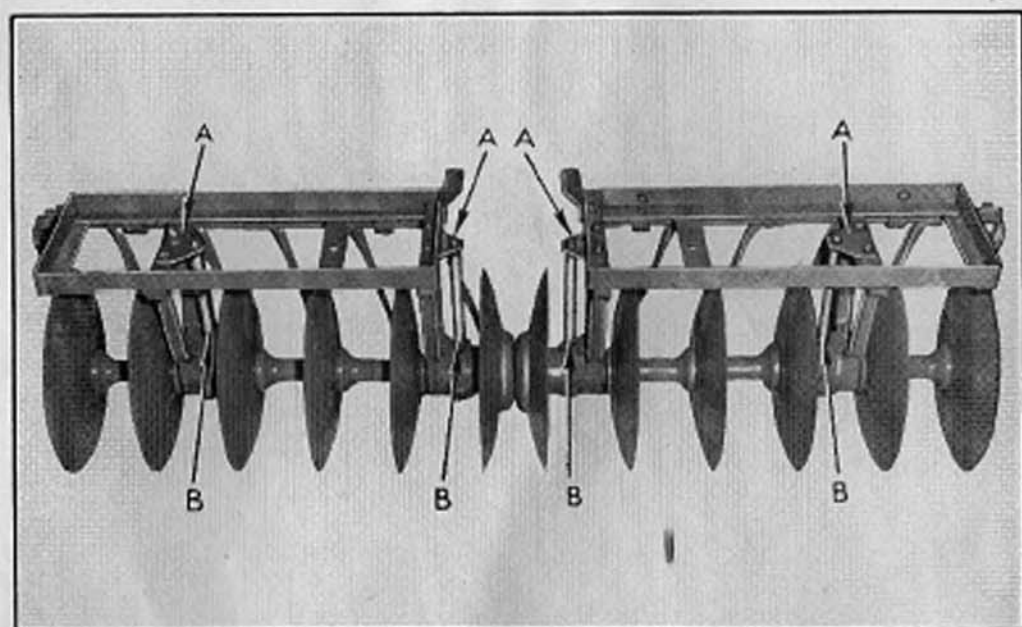

FIG. 8
Assembly of the single Disc Harrow is accomplished in exactly the same manner as shown in Figures 8 and 9. Make sure that the snubber (A) is correctly installed and later adjusted under field conditions so that the gangs are level and each disc can penetrate the same depth.